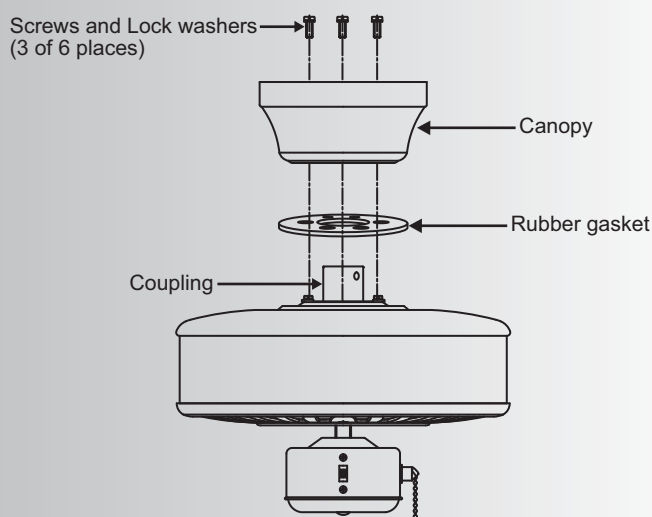

Fig. 9
Step 1. Remove three of the six screws and lock washers (every other one) from the collar on top of the motor assembly. Place the ceiling fan canopy and the rubber gasket over the collar and align the mounting holes with the holes in the collar. Attach the canopy with the rubber gasket and the three screws and lock washers previously removed. (Fig. 9)